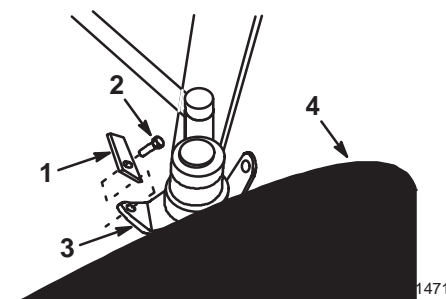

Figure 19
16. Remove the steering spindle stops, from tabs on front wheel spindles, to allow for tighter turning radius (Fig. 19).